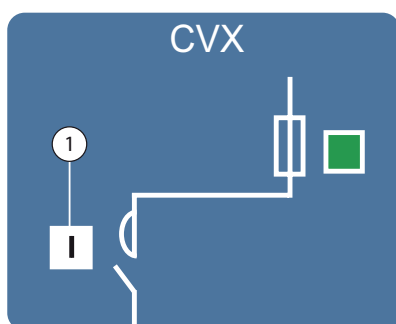
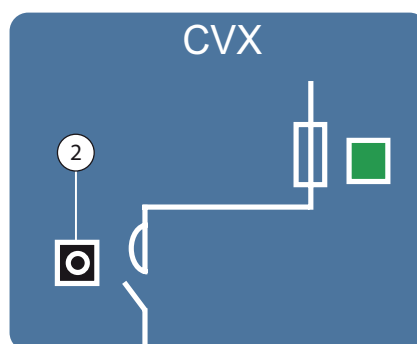
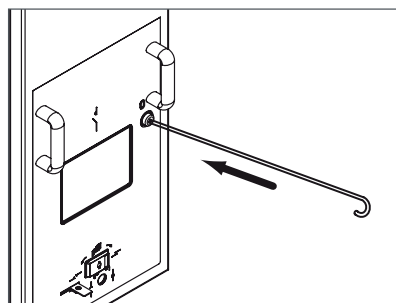
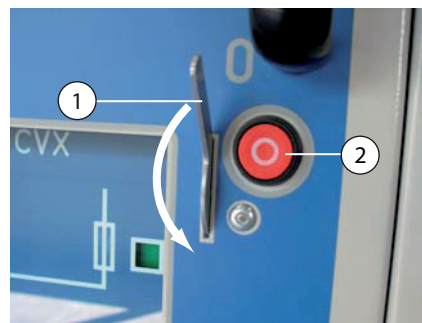

Figure 48
Figure 49
Figure 50
Figure 51
The vacuum contactor CVX is switched on or off is indicated directly on the device (Figure 48 and Figure 49).
This feature is only available for mechanically latched vacuum contactors CVX. In this case, the vacuum contactor CVX can be switched off directly on the panel (Figure 50 and Figure 51).
1. Insert operating rod through the guide hole in the front door until the vacuum contactor switches OFF (Figure 50). Check the position indicator (Figure 49).
2. Alternatively: Switching off by means of a pushbutton (Figure 51). To this effect, move the lever (1) downwards to its stop and press the OFF pushbutton (2).
3. Check the position indicator (Figure 49).